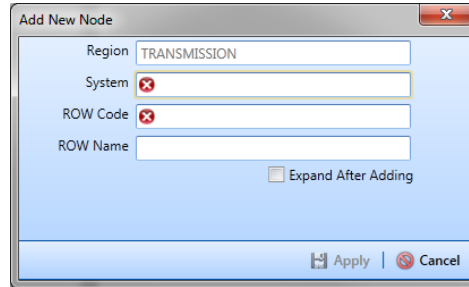

Figure 3-2. Add New Node
- 3 Click **+ Add** to open the *Add New Node* dialog box (Figure 3-2, page 89).